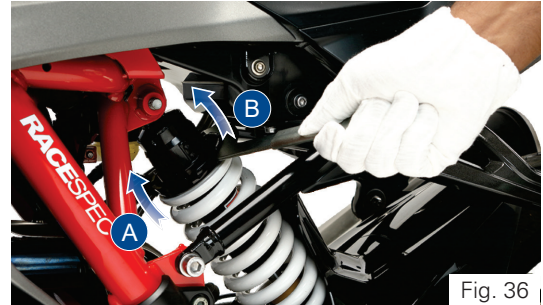

Fig. 36
- Locate the adjuster shock absorber rear and handle ring spanner of tool kit (**ref. page 155**) properly into the notches of pre-load adjuster (ref. Fig. 36).
- Carefully rotate the adjuster clockwise (A) to increase the pre-load (hard suspension).
- Else, rotate the adjuster in anti-clockwise (B) to decrease the pre-load (soft suspension).